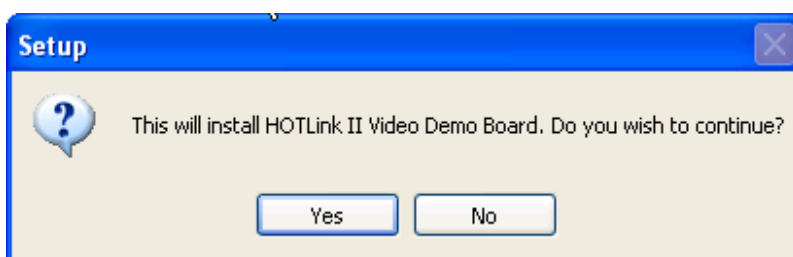

Figure E-1. Software Set-up Dialog Box
2. When a dialog box pops up to confirm installation, click “Yes” to continue (see *Figure E-1*). This will launch the installation wizard.